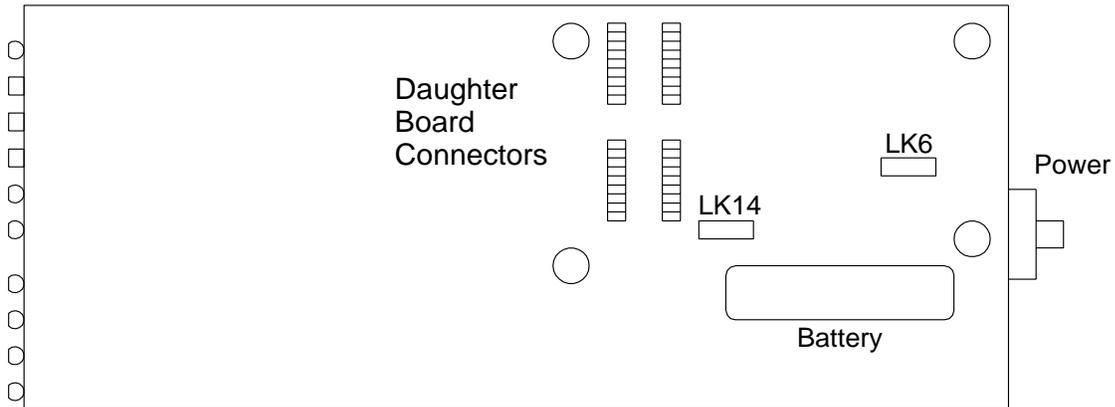

Figure D-2: PAD CPU Board
2. Locate the battery holder on the CPU (main) circuit board and install the battery as shown in Figure D-2. The battery is not enabled unless Jumper LK14 is set (see Table D-1).